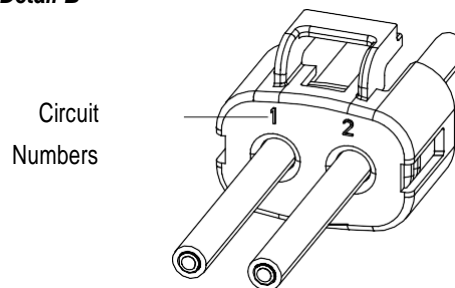

Figure 3
1. Assemble the cable seal retainer and cable seal in the order and direction shown in Figure 3, Detail A.
Note that circuit numbers are shown on the cable seal retainer. Make sure that the correct cable is inserted into each cavity. See Figure 3, Detail B.